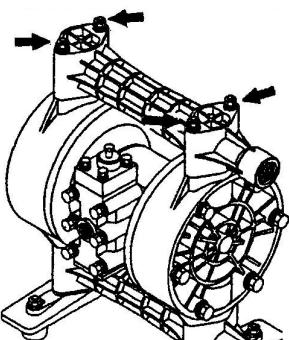

Fig.4.5
See [Exploded View] on and after p. 16. (Fig. 4.5, 4.6, 4.7 and 4.8 show the NDP-20BP□.)
- Remove the 4 retainer nuts from the upper side of tie rods, and remove the “out” manifold. [Fig. 4.5]